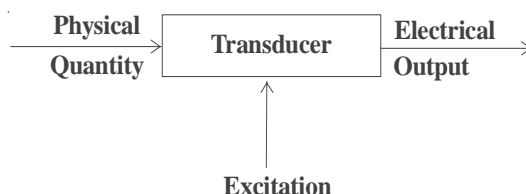

Fig. 30.9: Function of a typical transducer
- provide a proportional electrical output signal as shown in Fig. 30.9. Let us now